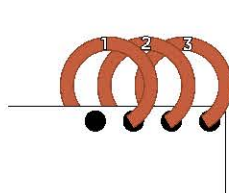

FIG. 1
3. Choose the corner of the tool that will best fit the size jump rings you want to use. Attach the 3 open base-row jump rings to the tool, leaving the innermost hole empty, and then close them (FIG. 1). These are the 3 starter jump rings (first 3 jump rings of the base row).